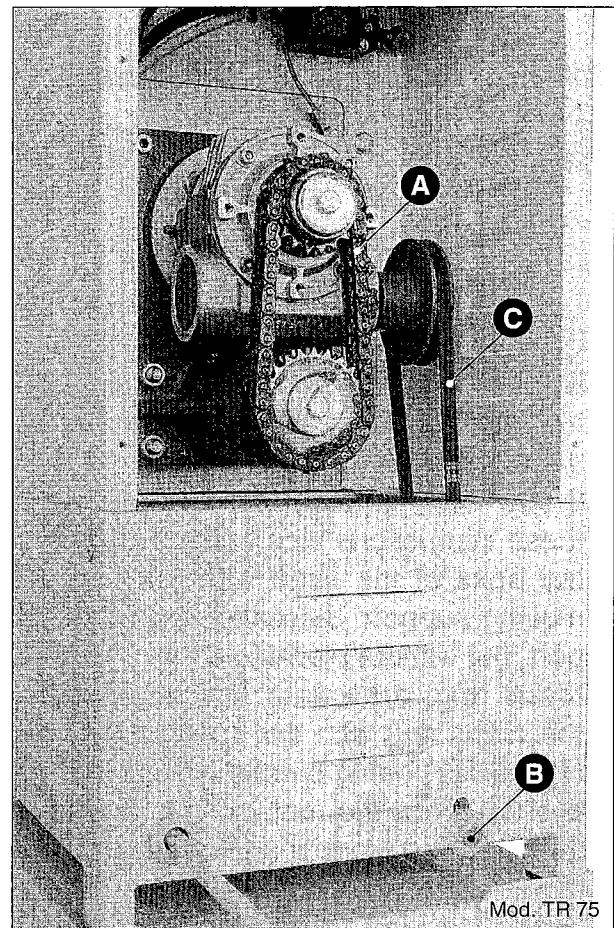

Fig. 38
- for the inside parts of the machine, take off the back panel (**Fig. 38**) and carry out the cleaning of the machine, bearing in mind the grease and dust, that are sometimes present; lastly, fit the panels again.
Remove the rear panel to gain access to the chain (**Fig. 38 A**) and the bearing support (**Fig. 38 B**).
For this reason, disassemble the rear panel from the machine and make sure that the belt (**Fig. 38 - 40 - 42 C**) is tight enough.
If necessary, use the regulating system (**Fig. 38 B - 40 A - 42 A**), by moving the motor and therefore, tightening the belt, without of course exaggerating.